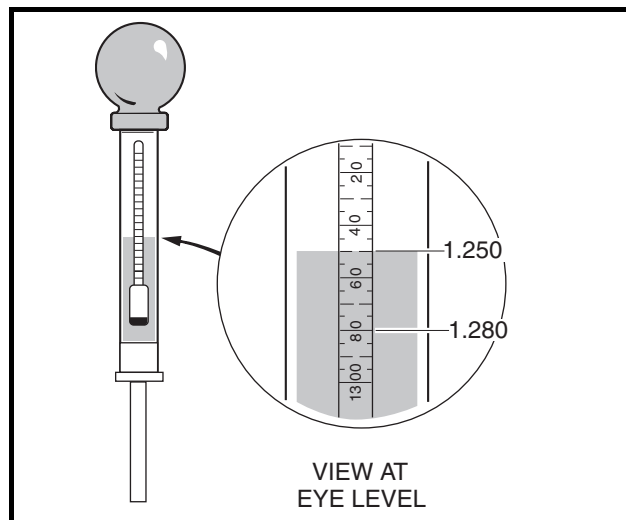

Figure 11-6 Hydrometer Test
A hydrometer (CCI P/N 1011478) measures the specific gravity. The higher the specific gravity, the higher the state of charge of the battery. A fully charged battery should read between 1.250 and 1.280 at 80 °F (27 °C). Never add acid to the battery to obtain a higher specific gravity (**Figure 11-6, Page 11-12**). **See following CAUTION.**
6. Hold the hydrometer vertically, ensuring that the float is not contacting the sides of the glass tube. Hold the hydrometer at eye level and read the scale at the level of electrolyte (**Figure 11-6, Page 11-12**).